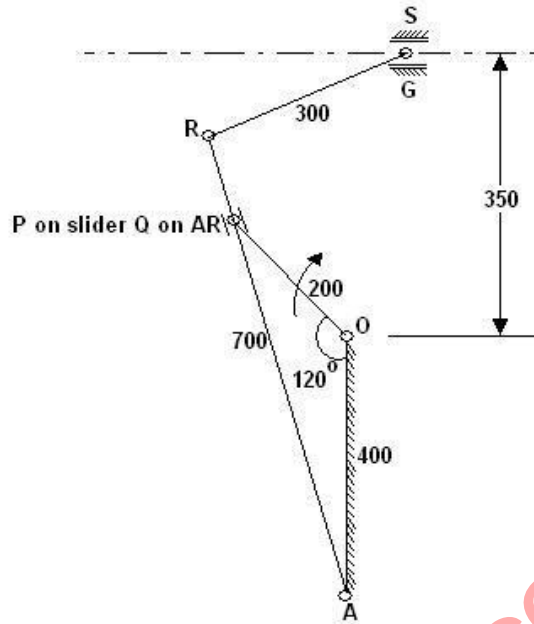

Fig.2
Q.3 Fig.2 shows the link mechanism of a quick-return mechanism of a slotted – **14**